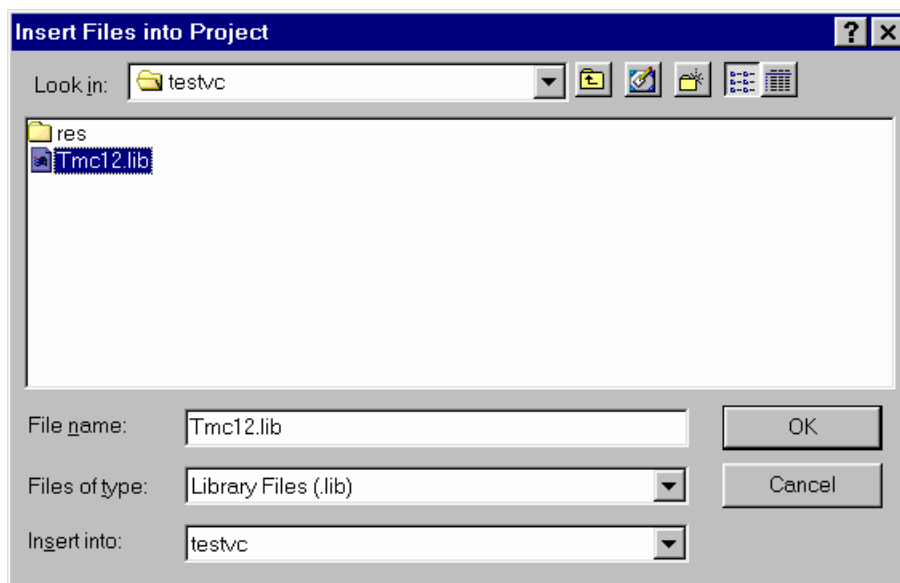

Figure 2-2-4. Change the field “**Files of type:**” to “**Library Files (.lib)**”.
Refer to Figure 2-2-4.
For example, “**TMC12.lib**”. Refer to Figure 2-2-4.
Step 10: Click the button “**OK**”. Refer to Figure 2-2-4.